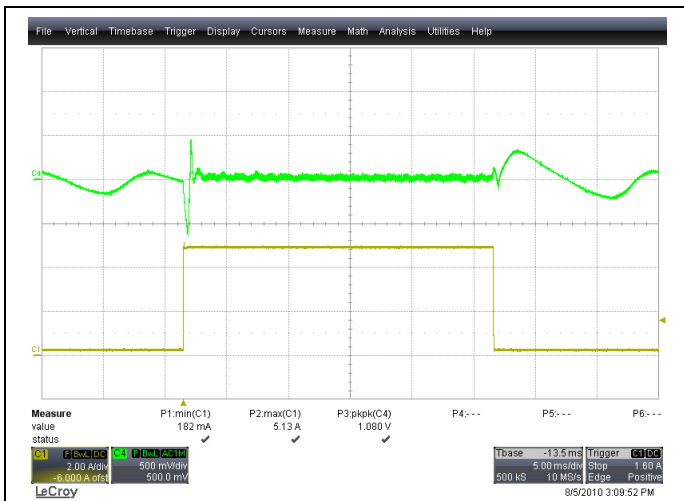
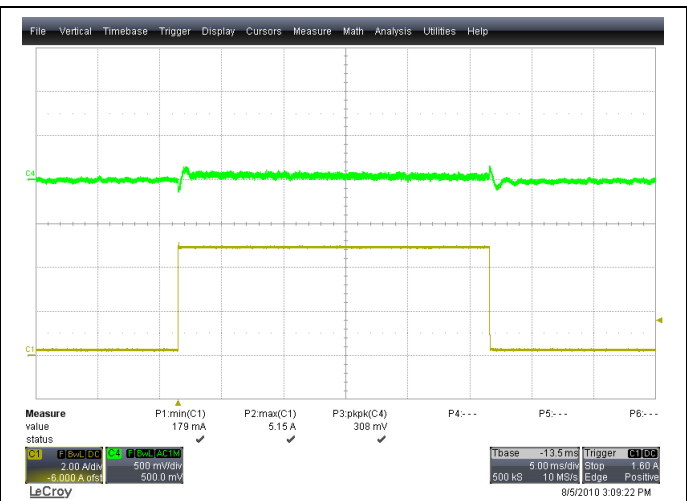

Figure 47 - Transient Analysis, 0.2A - 5A step load, 48VDC, SR disabled at light load
Figure 48 - Transient Analysis, 0.2A - 5A step load, 48VDC, SR enabled at light load
C. Transient Response under DCM/CCM transition: Figure 47 shows the dynamic response of the system under a load step of 0.2-5A (slew rate 1A/μs). A low starting current is chosen so that the converter is forced to disable the synchronous rectifiers due to the light load threshold setting in the CS2 window. In contrast, Figure 48 shows the response with the light load threshold set at 0A (SR always on). This forces the output inductor current to be continuous and the converter remains in CCM despite the load condition drawing energy from the output capacitor to charge the inductor.